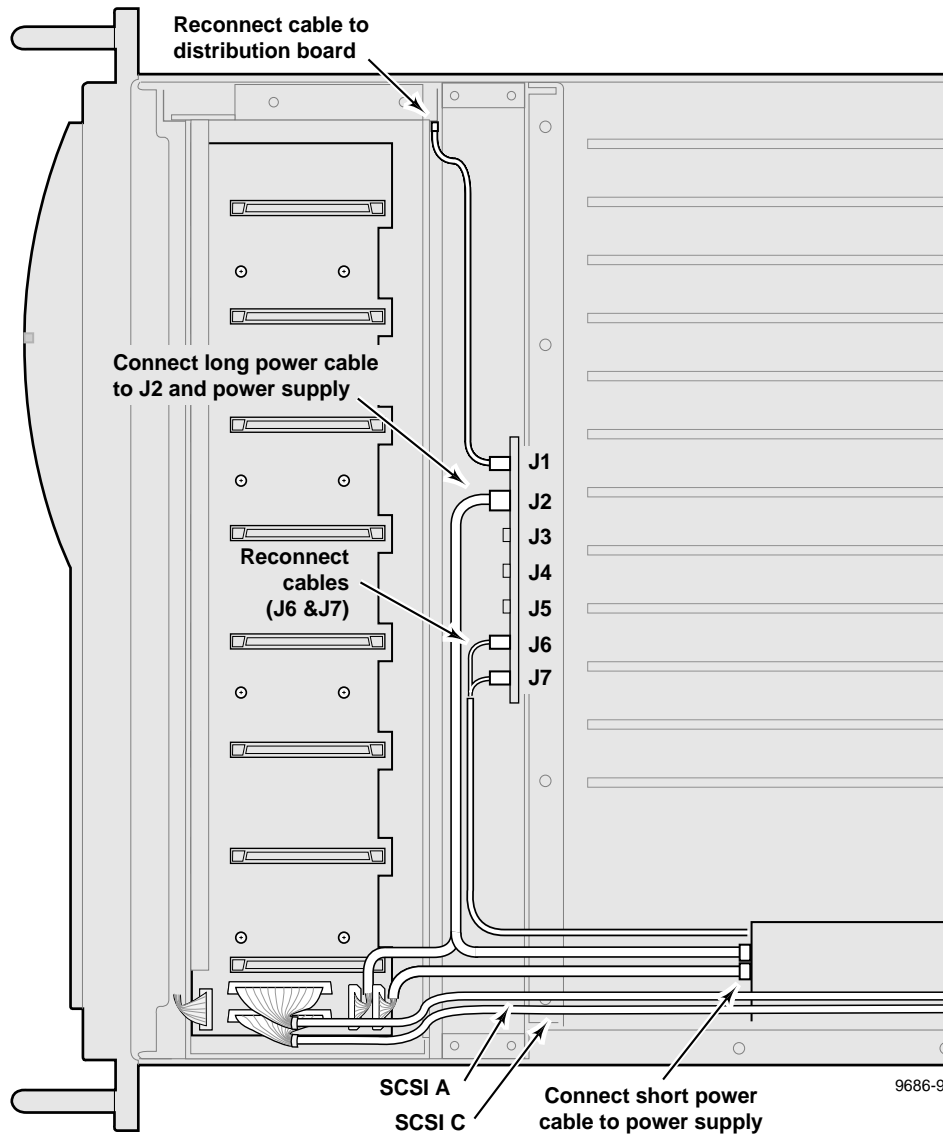

Figure 21. Connecting the fan tray cables
2. Connect the power supply cables from the drive tray to the power supply. See Figure 21.
3. Connect the power cable from the fan tray to J2 on the Fan board. See Figure 21.
4. Connect the fan power cable to the pins at J6 and J7 on the Fan board. See Figure 21.
5. Reconnect the cable from J1 on the Fan board to the distribution board. See Figure 21.